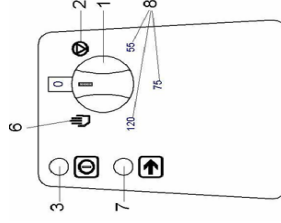

Figure 1
1. Set selector switch (1) to the Standby mode (2) or desired time setting (8). (Fig. 1)
1. Switch selector switch (1) to the "0" setting. (OFF) (Fig.1)
- Place threaded cap T on position (Fig.1)
- Insert and push Solenoid E (Fig. 1) until it is fixed.
- Fit Pressure Gauge M (Fig. 1). Use Teflon tape over the thread to prevent leaks.